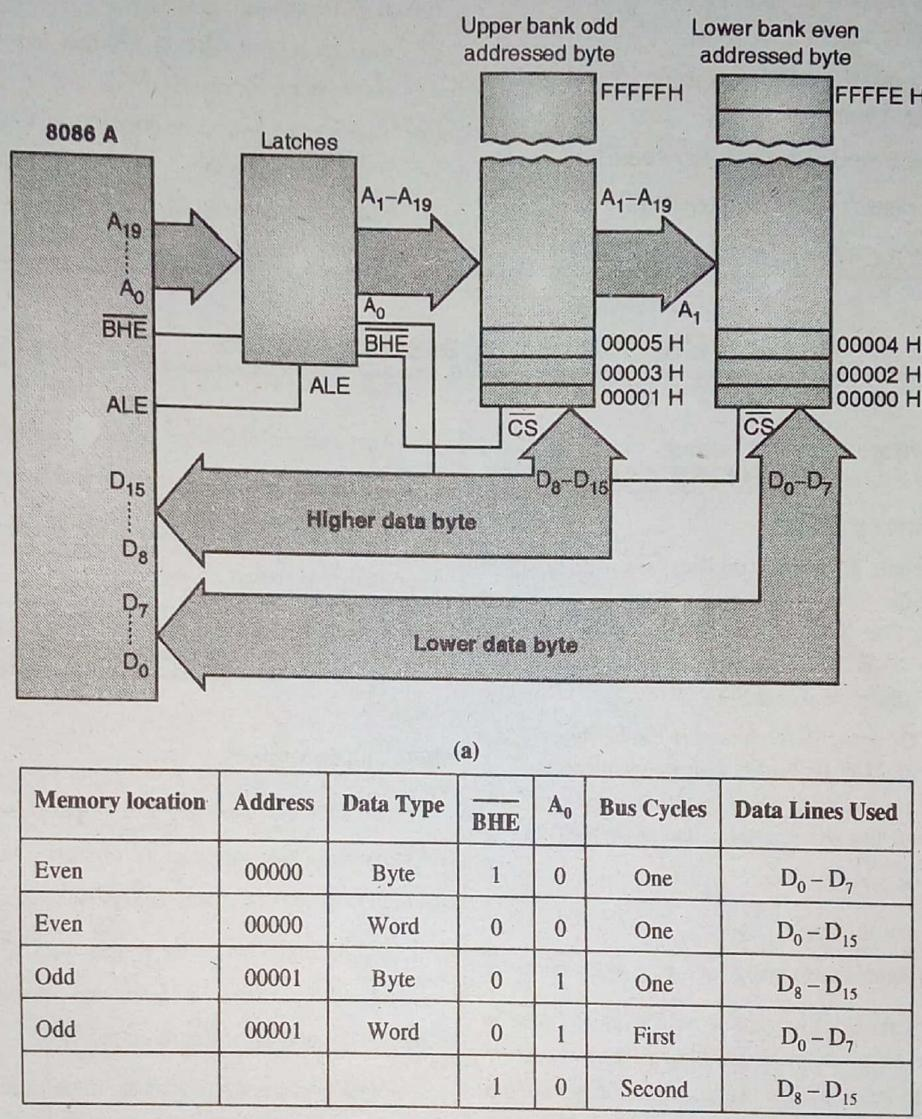

Fig. 2.4 : Memory banking
If both these memory locations are in same memory chip then the address bus will have to provide two addresses sequentially and will require double the time also 16-bits would not be accessed simultaneously. To solve this problem, the memory of 8086 is divided into two banks each bank provides 8-bits. One bank contains all even addresses called the "Even bank", while the other is called "Odd bank" containing all odd addresses. Fig. 2.4 shows the different accesses possible for 8086.
Since the address in even A₀ is '0'. BHE signal is kept disabled as only even bank access is required. The access is completed in one cycle. The data is accessed on data lines D₀ to D₇. For e.g. when the byte required is from an even address like (00000)H, it implies one byte from 00000H i.e. first location of even bank as shown in the Fig. 2.4(a).
Since the address in odd A₀ is '1'. BHE signal is kept enabled as odd bank access is required. The access is completed in one cycle. The data is accessed on data lines D₈ to D₁₅. For e.g. when the byte required is from an odd address like (00001)H, it implies one byte from 00001H i.e. first location of odd bank as shown in the Fig. 2.4(a).
- One byte from 00000H i.e. first location of even bank as shown in the Fig. 2.4(a).
- One byte from 00001H i.e. first location of odd bank as shown in the Fig. 2.4(a).
- And another byte from 00002H i.e. second location of even bank as shown in Fig. 2.4(a).